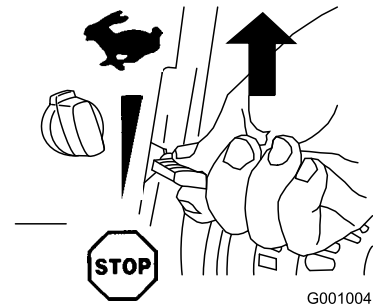

Figure 22
2. Move the throttle to the Fast position (Figure 22).